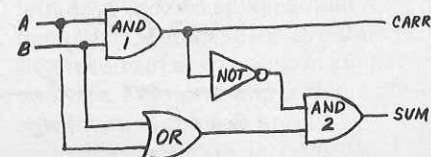

Fig. 4. Logic array for XOR circuit.
**Complex Logic Systems.** Logic systems that contain three or more basic logic elements are termed "complex." One of the simplest of the complex logic systems is the EXCLUSIVE OR (sometimes written XOR) function shown diagrammatically in Fig. 4. From the truth table, note that this function is identical to the OR function with one important exception: A true condition exists only when one or the other condition, but not both, is true.
input B in the EXCLUSIVE OR circuit shown in Fig. 4. Since only one input is enabled (input A), AND circuit 1 does not turn on. Hence, a 0 is present at the CARRY output. OR circuit 1 does turn on, since only one input need be present. Since the NOT circuit inverts the 0 from AND circuit 1 into a logic 1, AND circuit 1 has two input signals and is therefore turned on. The result is a logic 1 at the SUM output. (The circuit has added 0 + 1 to obtain 1.)